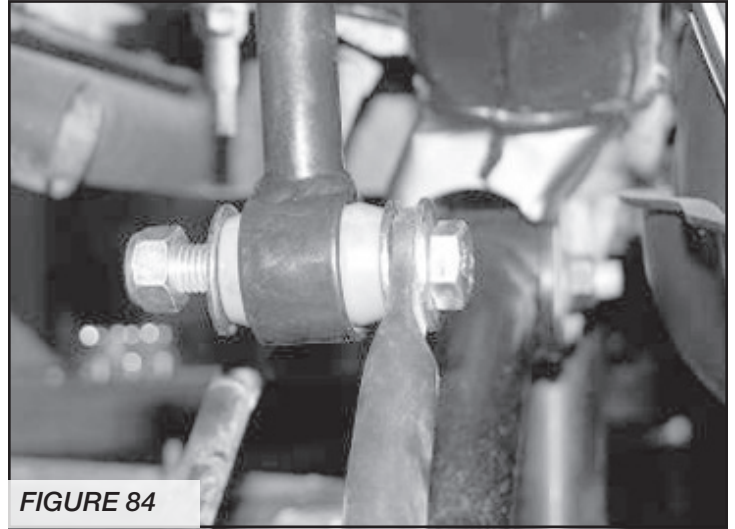

FIGURE 84
53. Locate the supplied 12mm bolt, nut, and large washers (BAG 4). Place a washer onto the bolt and insert into the sway bar from the inside of the bar. Follow with another large washer. Mount the bar to link and follow with another large washer and the C-lock nut. Tighten the lower bolt first and then the upper nut. Only tighten enough to get the bushings to bulge. **SEE FIGURE 84**